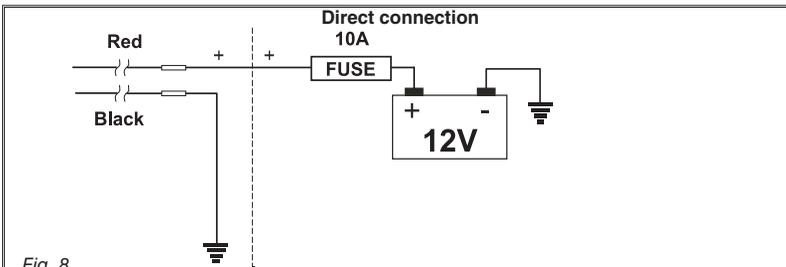

Fig. 8
- If the 15/54 contact (services) of the start key can bear a continuous load of 10A, install the connections indicated in Fig. 8, with a 10A fuse on the power cable.